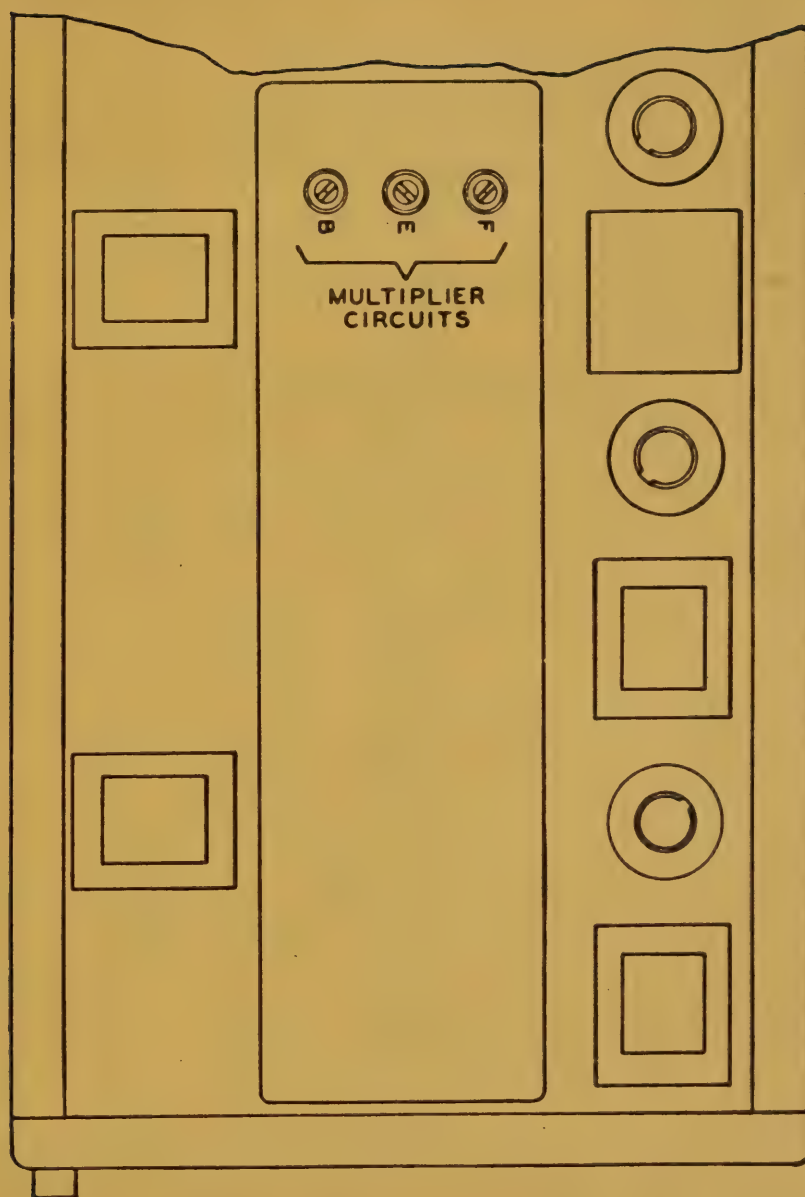

Figure 5-6B Tuned Circuit Locating Diagram
(10) Repeat the adjustment of i-f slugs 1-2-3-4 in the same manner as outlined to correct for any interaction between the circuits.
**c. MULTIPLIER ALIGNMENT.** - The multiplier is aligned by means of the slug adjustment of L-101 and the adjustment of C-141, C-142, and C-143. The slug adjustment for L-101 is engraved MULT. and can be located by referring to Figure 5-6B. Variable trimmer capacitors C-141, C-142 and C-143 are located on the right side of the receiver and the slotted shaft screwdriver adjustments are accessible through the holes in the shield engraved F, E and B. Refer to Figure 5-6B. To align the multiplier, proceed as follows:
(1) Connect the output lead of the signal generator to the antenna terminal of the receiver and connect the grounded lead to any convenient receiver chassis point.
(2) Connect the output meter to output jack J-104, adjust the receiver for MCW operation, turn the receiver on and allow the unit to "warm up" for at least five minutes.
(3) Loosen the Autotune locking keys and set the BAND selector control for the 12.5 to 18.5 megacycle band (band F).
(4) Rotate the TUNING control to the stop on the high frequency end of the band, then back away from the stop from two or three turns of the TUNING control.
(5) Adjust the signal generator to the frequency arrived at on the receiver. Adjust both the signal generator and the output meter to find the ave threshold level as outlined in steps (7) and (8) under i-f alignment procedure.